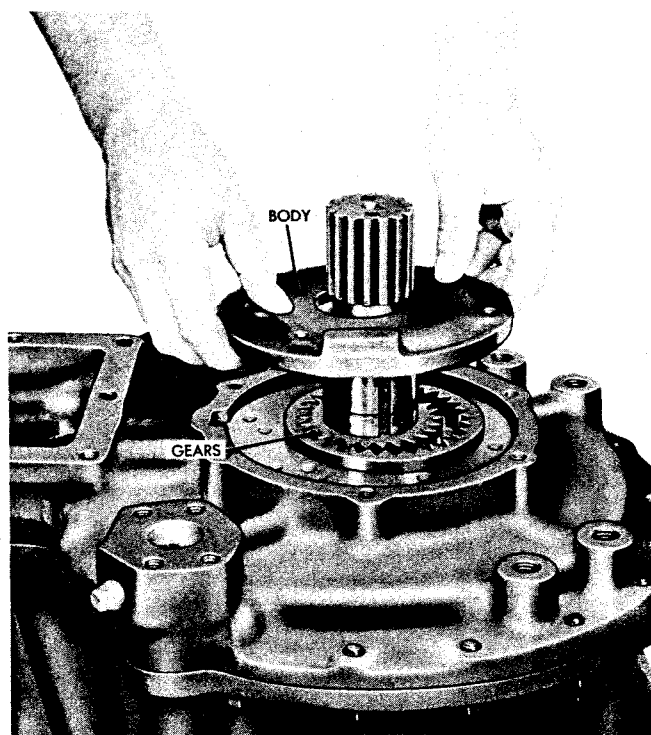

Fig VI-78. Removing or installing output oil pump body
(7) If the transmission is equipped with an output driven oil pump, remove the oil pump body (fig VI-78). Remove the oil pump gears (fig VI-78). Remove the oil pump cover (fig VI-81).
(fig VI-78). Install the oil pump body (fig VI-78). Secure the cover with five bolts and lock washers.